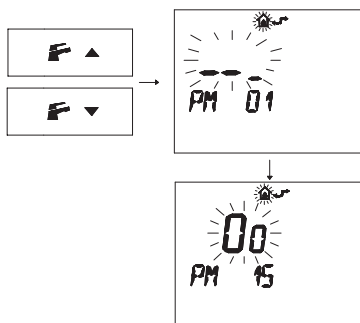

Fig. 8.3
- Press buttons **F** ▼ or **F** ▲ to display the "PM15" program that enables the external probe (Fig. 8.3).